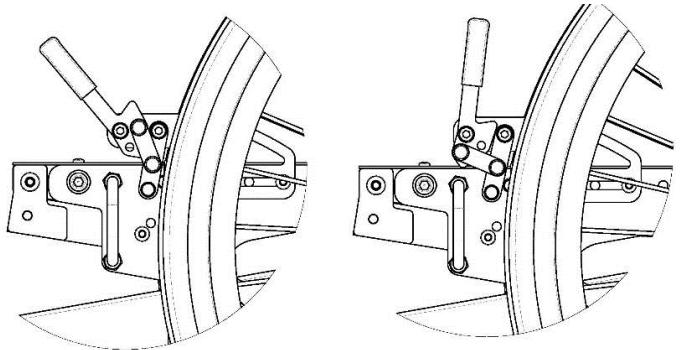

Fig. 15: Pull-to-Lock (Left) and Push-to-Lock(Right) Wheel Locks (standard).
1. To engage the push to lock wheel lock (see Figure 15), push the lever forward, away from the wheel, until it locks into place.
2. To engage the pull to lock wheel lock (see Figure 15), pull the lever towards the wheel until it locks into place.